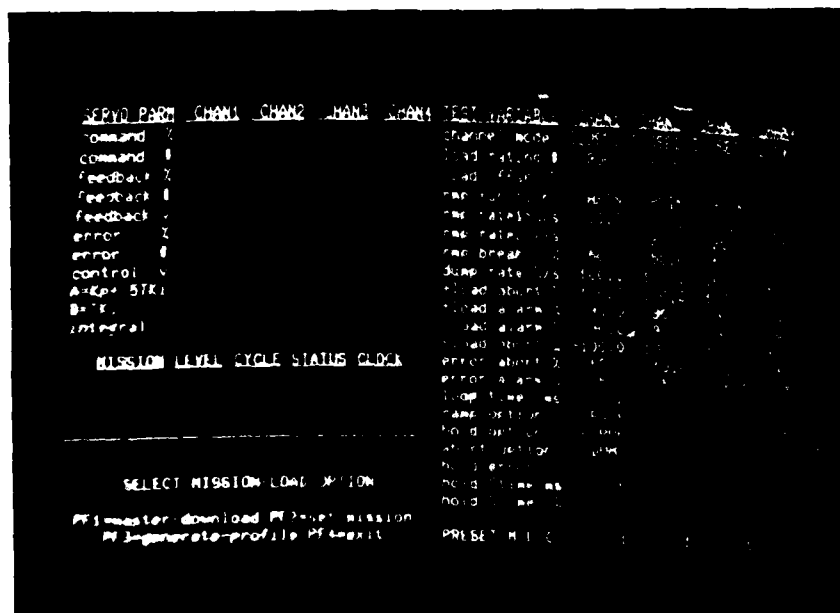

Figure 11. Load Mission Display
(1) downloading the master computer, (2) random generation, and (3) manual entry from the terminal keyboard. Another state sets the number of missions to be run and the number of levels per mission. Figure 11 shows the display for the load mission mode. Four options are available to the operator: